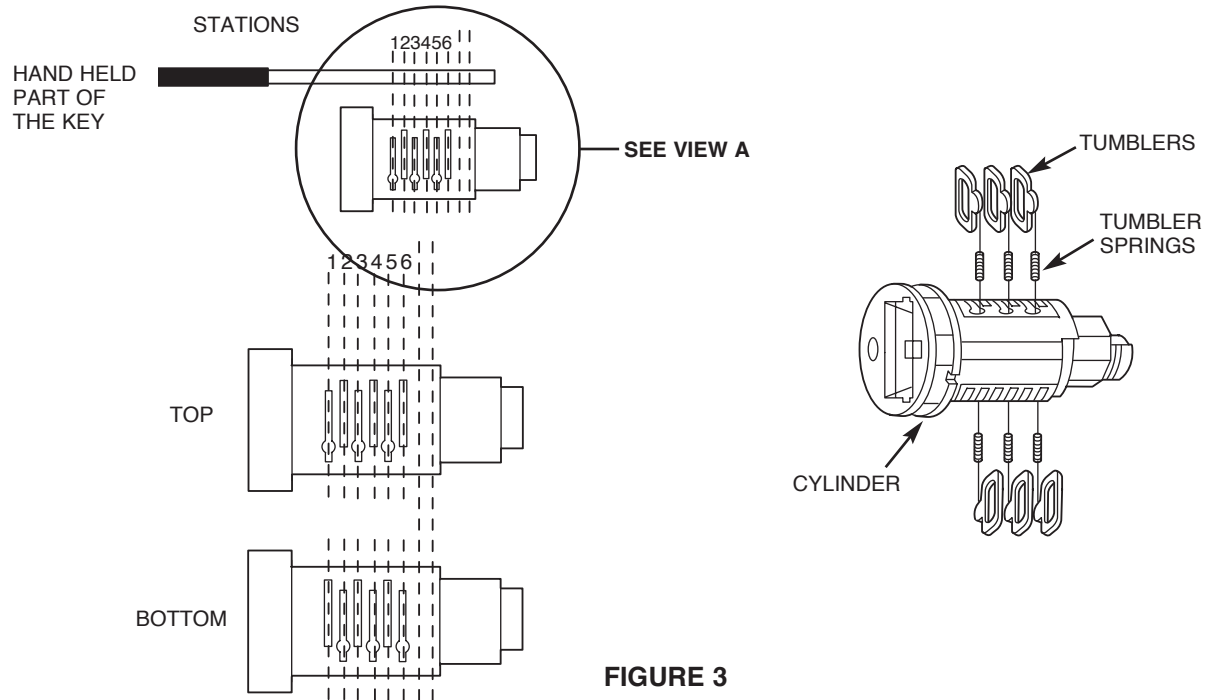
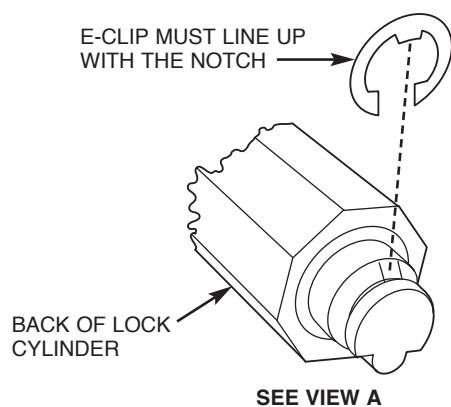

FIGURE 3
FIGURE 4
3. If required, insert the detent spring (I) into the groove located on the interior surface of lock case (E1-6).
4. If required, insert the detent pin (J) into the groove located on the interior surface of the lock case.
6. Insert one tumbler spring (C) into each of the holes located at the end of the tumbler wards on the lock cylinder sub-assembly (D1 or D2).
7. Insert the required tumblers (B1-B5) into tumbler wards in the proper orientation (refer to Figure 3) and in the sequence that match the key cut depths, for key stations 2, 3, 4, 5, 6 and 7.
13. Place the shutter cover over the lock case and the lock cylinder. Use a pair of small pliers to gently bend the three (3) tabs on the shutter cover inward toward the center of the lock case to secure the lock cylinder within the lock case.
14. Assembly Spacer (Q) on the back of the Luggage or Engine Compartment lock.
17. Install the E-clip (G) to the back of the lock cylinder sub-assembly to secure the lever or spacer. Note that the tab on the E-clip should fit into the indentation on the back of the lock cylinder sub-assembly. (Refer to Figure 4) for proper orientation of the E-clip.
19. On the face of the lock place the thin gasket (M) and secure with the Bezel.
20. Attach the thick Gasket (N) on top of the Bezel.